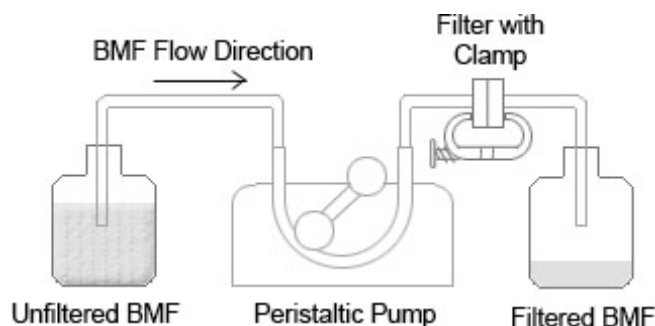

Figure 1: Filtering Setup
8. Connect 0.25" PVC tubing to the other end of the filter. Lead this tubing into a clean and empty 2L container. The setup is shown in Figure 1.